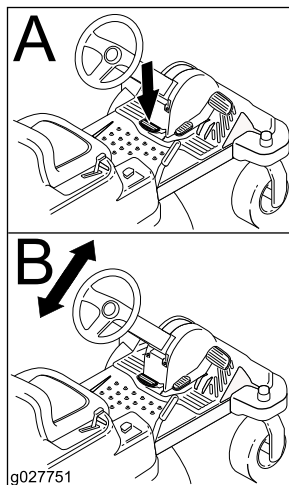

Figure 16
2. Position the steering wheel to the desired position (Figure 16).